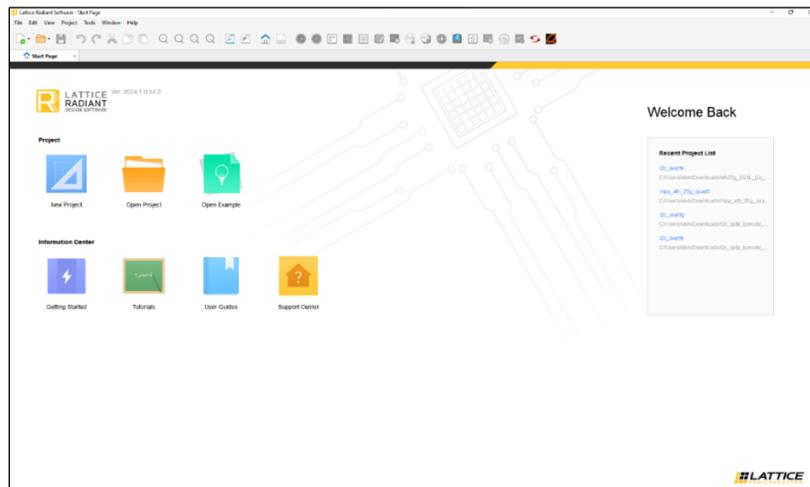

Figure 5.3. Lattice Radiant Software
1. Launch the Lattice Radiant software, as shown in Figure 5.3. Note that the project is compiled using Lattice Radiant software version 2025.2.0.48.0.